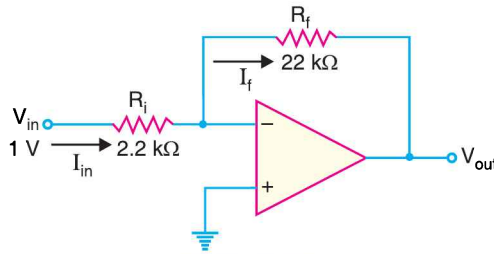

Fig. 25.105
12. Determine the approximate values of (i) I_{in} (ii) I_f (iii) V_{out} (iv) closed-loop voltage gain for the circuit in Fig. 25.105.